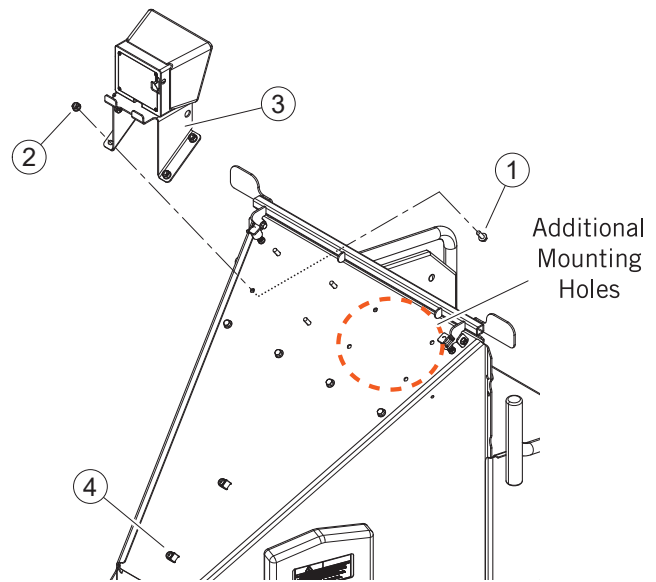

Figure 2.4, Digital Display Controller Enclosure
1. Remove the bolts (1) and nuts (2) attaching the digital display controller mount assembly (3) to the inside of the chute.
3. Route harness using the zip ties and two holders (4) shown in Figure 2.4. Leave excess harness at the controller to allow rotation of the enclosure from side to side.